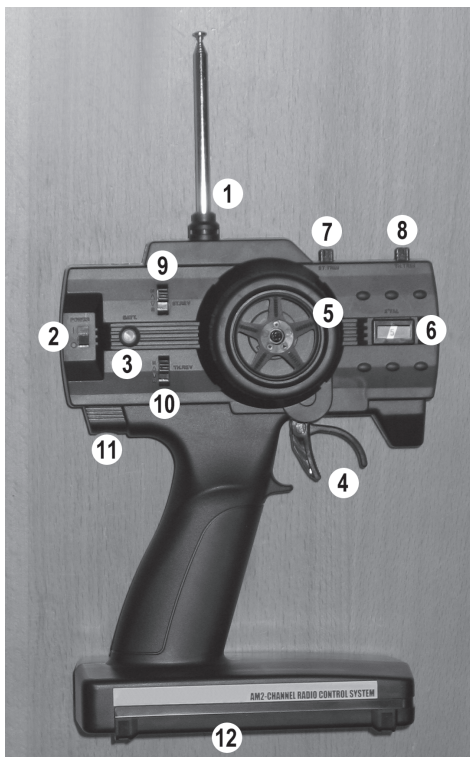

Figure 1
If the vehicle drive starts even though the throttle/brake lever at the transmitter is in its neutral position, adjust the trimming at the transmitter (trimming control "TH.TRIM" for throttle/brake, see figure 1, item 8), until the engine stops.
If the vehicle shows a tendency to pull towards the left or the right, set the steering trim on the transmitter accordingly (trimming control "ST TRIM", see figure 1, item 7).